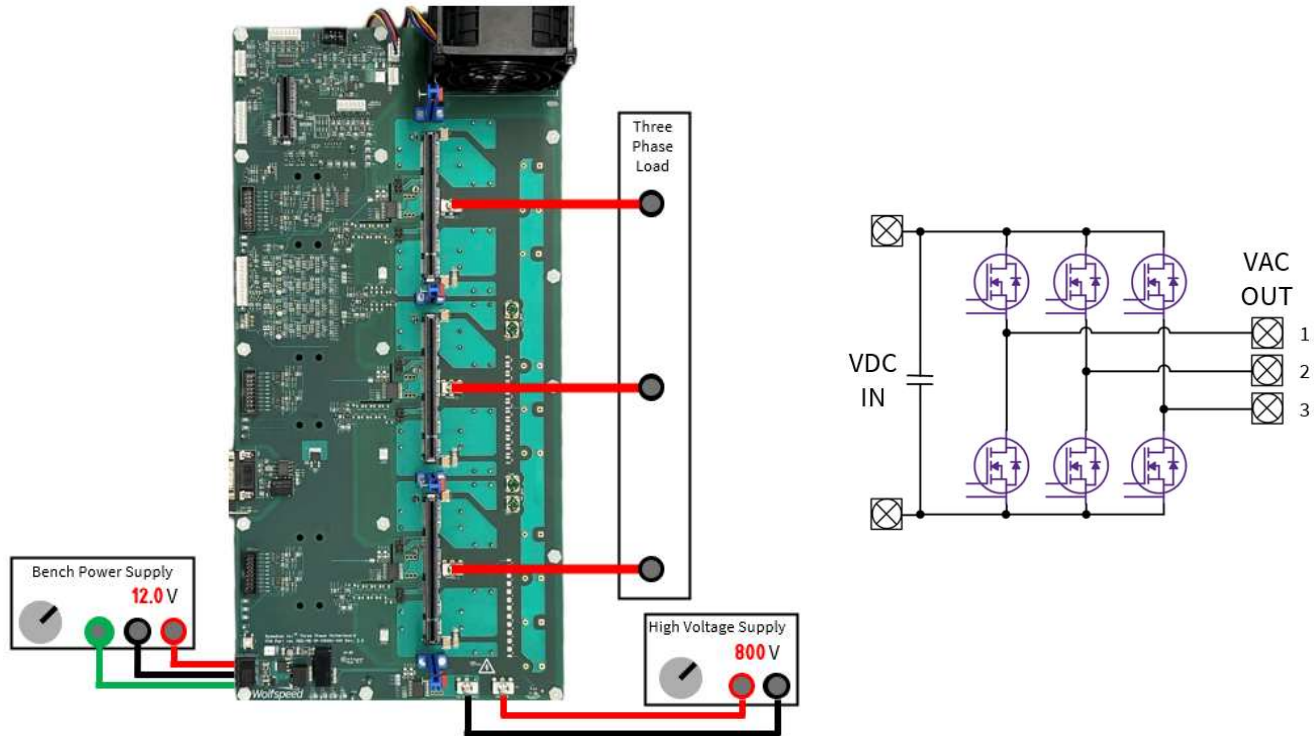

Figure 45: Connection diagram for three-phase inverter
- Connect a three-phase load such as a variable resistor bank, electronic load, or motor to the three phase connections as shown in Figure 45.